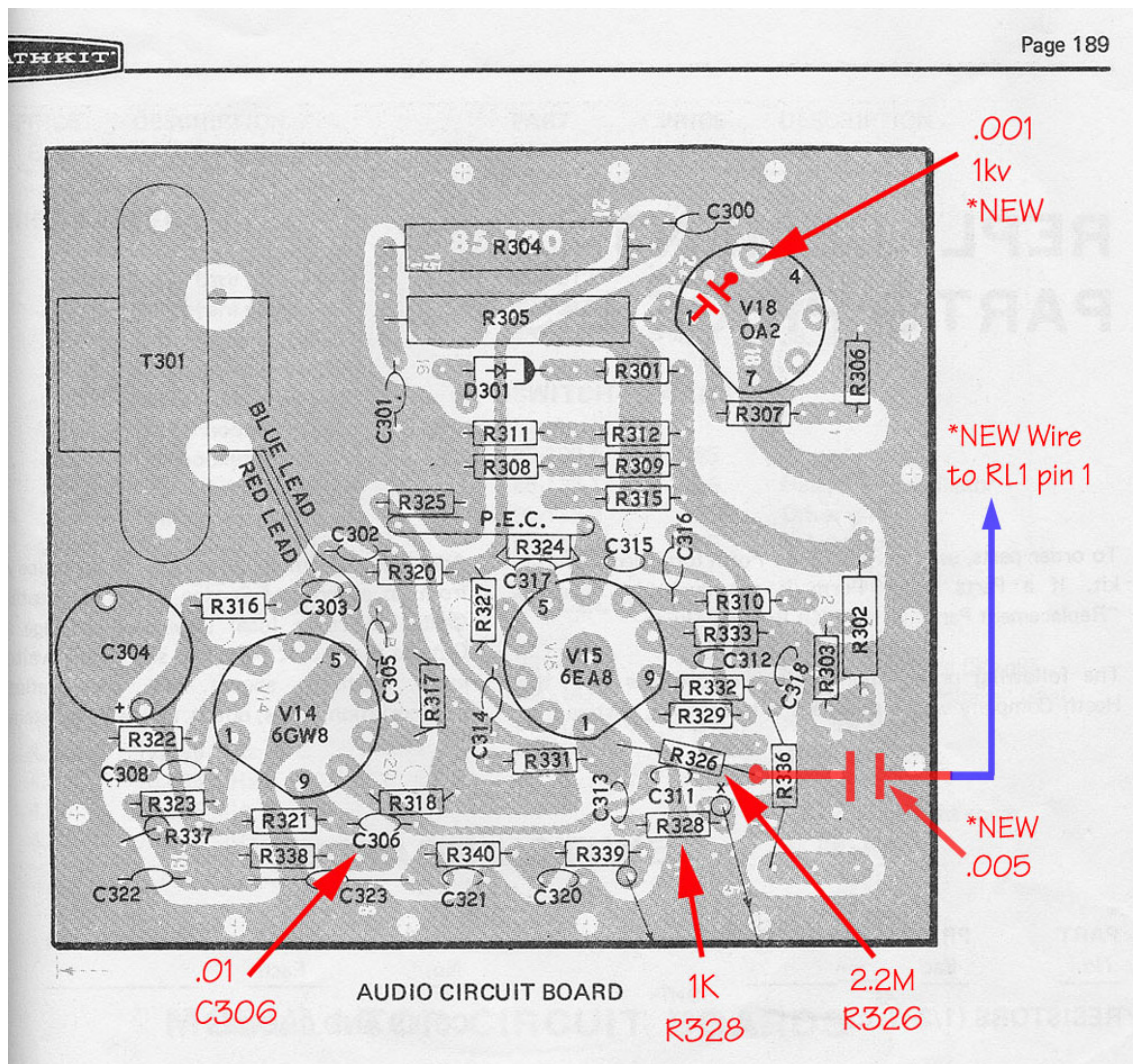
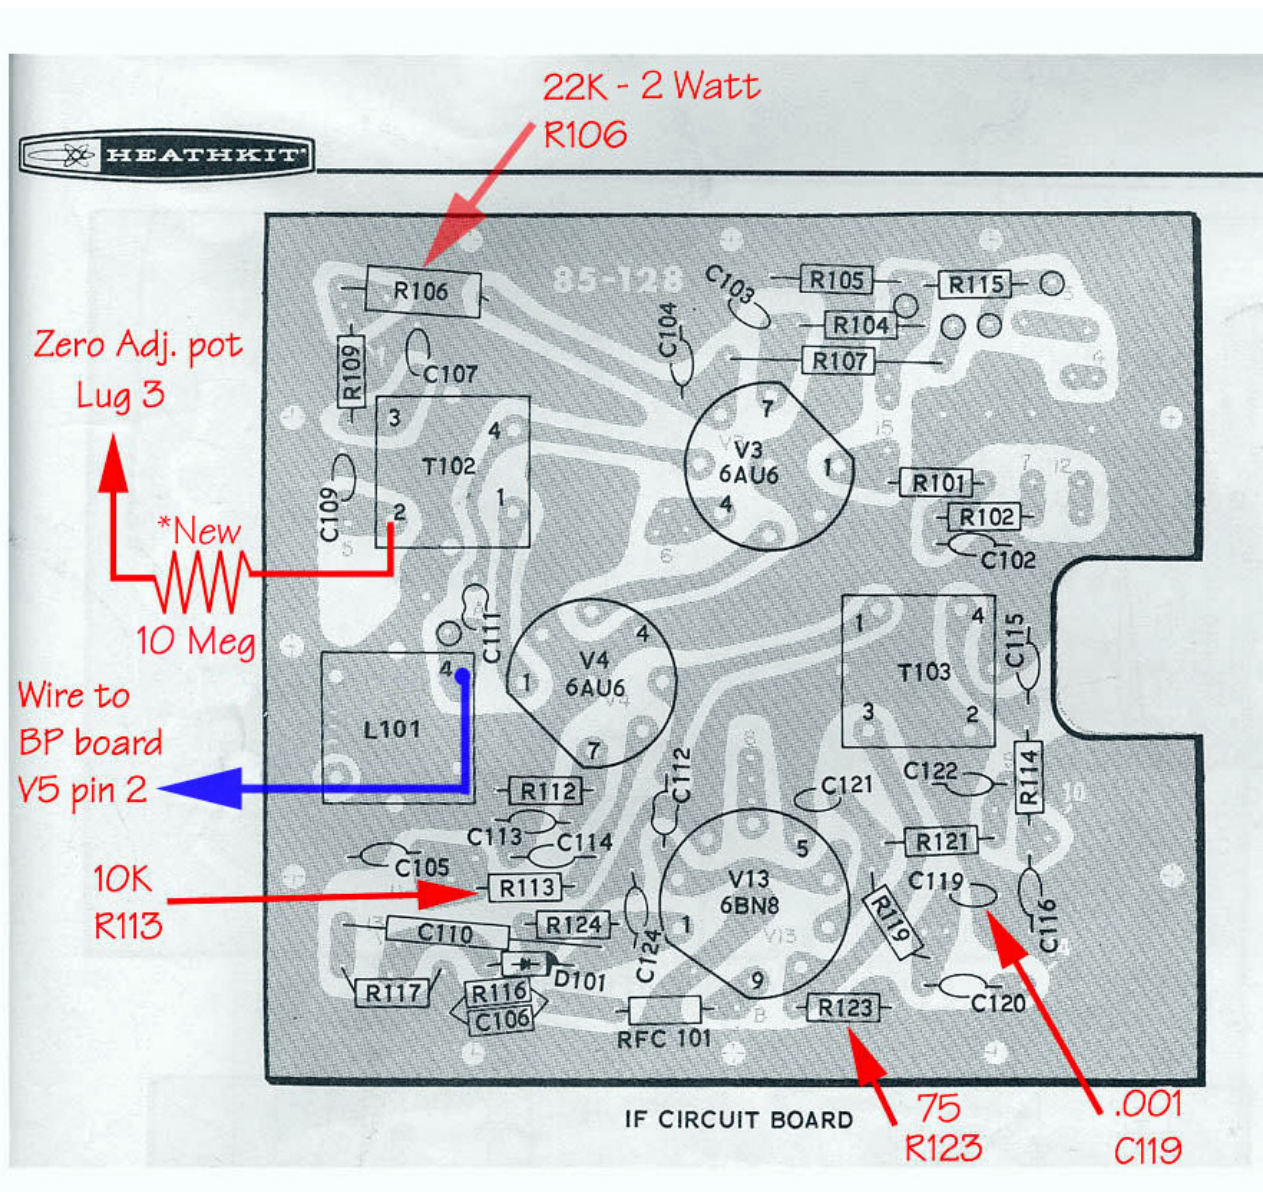
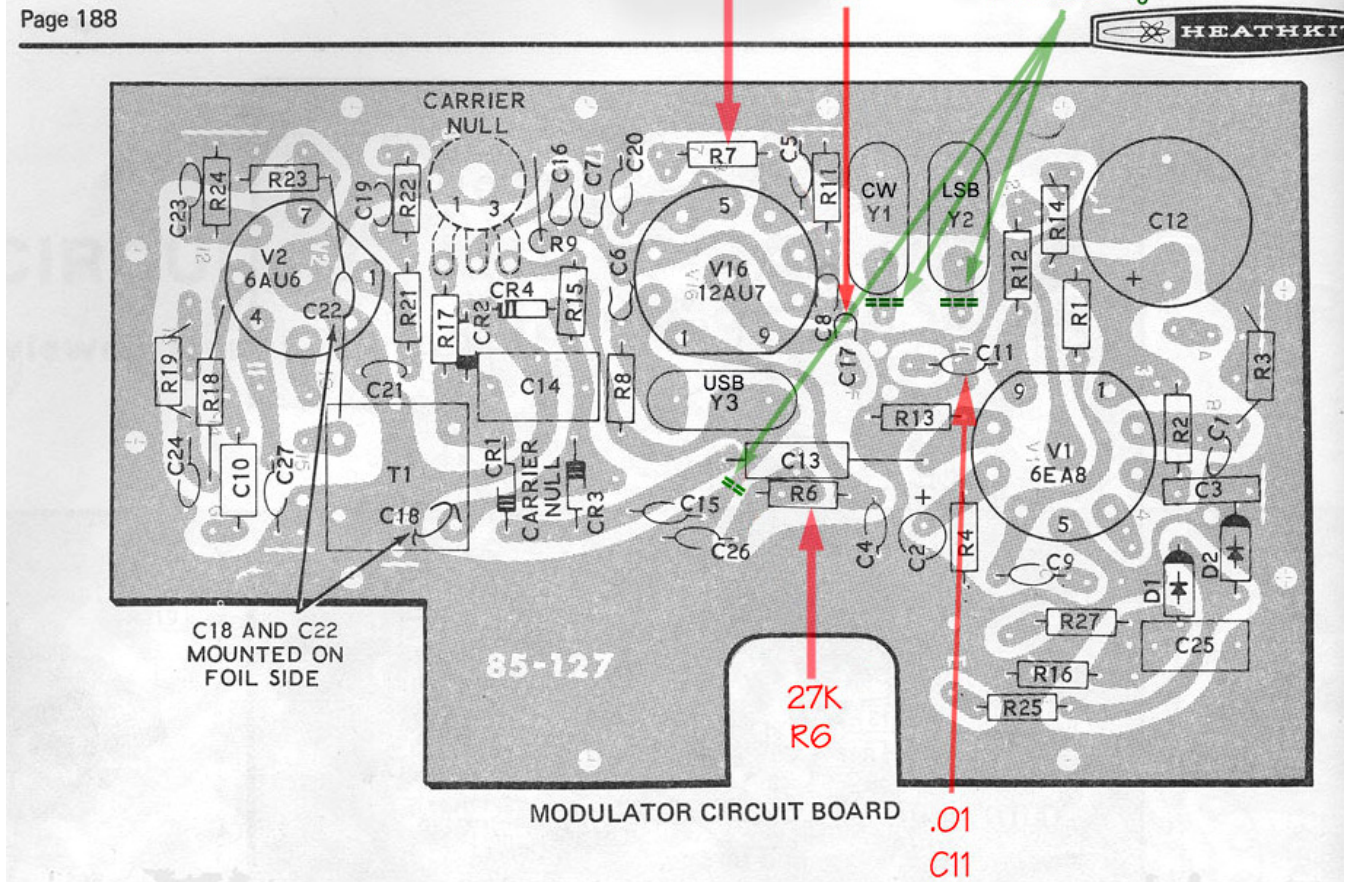

Figure 2
Figure 3
Figure 4
In the CW mode the rig's relays are energized by the CW sidetone amplifier's sidetone output driving the vox relay amplifier. The audio (sidetone) drive to the vox amp is a bit on the low side for fast relay action, and at speeds approaching 20 wpm the first dot sent is heard in the sidetone but isn't transmitted due to the slow relay response time. Correcting this is a very simple modification – simply replace the 470K Ω resistor R328 on the audio board with a 1K Ω resistor (**Figure 2**). This increases the drive to the vox amp enough to cause the relays to pull in quicker. Now the rig will key reliably at 20 wpm. The first dot tends to become shortened at 25 wpm but the rig is useable at this speed.
- 3) On the audio circuit board, replace 1M Ω resistor R326 with a 2.2M Ω resistor (**Figure 2**).
The transmitter audio quality can be improved by changing the value of coupling capacitor C11 on the modulator board from .001 μfd to .01 μfd (**Figure 4**). This will increase the low frequency response and give the transmit audio a little more “body”.
If 10K Ω resistor R202 is present between the I.F. circuit board (L101 pin 4) and the bandpass circuit board (V5 pin 2), remove and replace it with a piece of insulated hook up wire (**Figure 3**). This will increase drive to the 1st transmit mixer. This change is already incorporated in later model HW-101s.
During alignment check to see if, while adjusting T-102 (*Figure 3*), there are two points where the transformer can be peaked -- one spot for transmit and a slightly different setting for receive. If so, peak the transformer for maximum transmit drive instead of maximum receive gain. The receiver has an abundance of gain, however the transmitter could use a little extra. This will get rid of some of the receiver gain but WILL NOT affect receiver sensitivity.
Also change the value of the screen dropping resistor R113 in the second I.F. amplifier V4 from 1K Ω to 10K Ω (*Figure 3*). This will reduce the gain of this stage a bit and improve gain distribution.
To increase BFO drive, simply replace coupling capacitor C17 on the modulator board with a 100pf silver mica, and replace the 33K Ω resistors R6 and R7 on the modulator board with 27K Ω resistors (*Figure 4*). To reduce I.F. drive, change resistor R123 on the I.F. board from 470 Ω to 75 Ω (*Figure 3*).
Additional rolloff of the high frequency response will remove the raspy nature of the receive audio, and this is accomplished by changing the value of capacitor C119 on the I.F. board from 500pf to .001 μ fd (**Figure 3**). The low-end audio response of the audio amplifier increases slightly by replacing coupling capacitor C306 on the audio board with a .01 μ fd disk capacitor (**Figure 2**).
I like audio with a tad bit more bottom end response, so I placed my carrier points just a little closer to the filter center frequency than the Heath spec., i.e., rather than 1.6 kHz off center I went with 1.4 kHz. The frequency of the oscillator is lowered by placing a small amount of capacitance in parallel with the crystal, and the frequency is raised by putting capacitance in series with the crystal. To put a capacitor in series with the crystal simply cut one circuit board trace just before the crystal pin as indicated, and solder the capacitor across the opened trace (**Figure 4**). A 100 pf capacitor in series will move the crystal frequency up about 100 Hz, but the same frequency change in the downward direction would only require about 10 pf connected in parallel with the crystal.
S-meter zero setting instability is mainly caused by heat-related resistance changes in the R106 22K Ω 1-watt resistor on the I.F. board. Replace R106 with a 22K Ω 2-watt wirewound (*Figure 3*).
The bandpass transformer T_{202} is a constant-K network using three toroid coils (see fig. 2) and comes adjusted from the factory. Nevertheless, it is possible for it to drift out of adjustment during shipment or after prolonged use. If this is suspected, it can be checked as follows: connect the transceiver antenna connector to a 50 ohm non-inductive resistor, set the bandswitch to the 3.5 to 4.0 MHz band, turn the calibrator on and check the S-meter readings, keeping the preselector peaked for maximum throughout the band. If the readings are within one S unit from one end to the other, the transformer is probably OK. If not, it should be adjusted by removing the shield temporarily and peaking all trimmers found inside with the set tuned to 3.75 MHz (a signal generator is needed for this adjustment, but it can be approximated using the calibrator at either 3.7 or 3.8 MHz mark). After the adjustment, replace the shield and check to see
Fig. 2—Bandpass filter T_{202} may require re-adjustment after long use. Peaking the three trimmers at the center of the 80 meter band should provide flat coverage across the entire band.
This can be done by removing resistor R202 (see fig. 4) and replacing it with a jumper wire. This change has been made by Heath in all new HW-101 being sold. Output gain will be noticeable mostly on 40-meters, but less noticeable on other bands.
After some warm-up the S-meter will start indicating a lower reading in the receive mode. This is caused by resistor R107 (see fig 3) overheating and thus causing its resistance to drop. R107 should be replaced by a 100K 1-watt. Also resistor R106 should be changed to a 33K 1-watt, this reduces voltage feeding meter circuitry, thus causing less heat in R107.